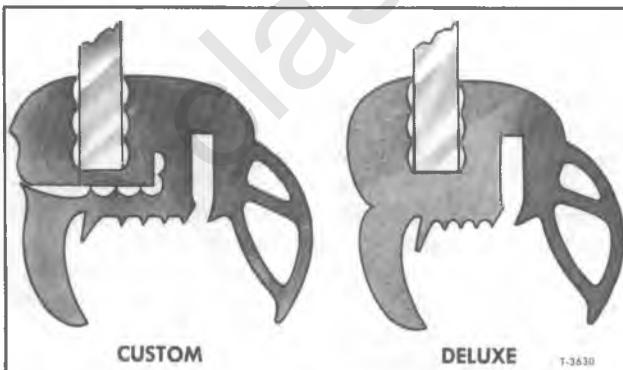

Figure 1—Cross Section of Windshield Weatherstrip (Conventional Cab Model)
NOTE: The windshield glass rubber weatherstrip is one-piece. The glass is held in a channel within the weatherstrip (fig. 1).
2. Do not try to remove reveal moulding while windshield is in body opening. Remove from custom weatherstrip retention groove (fig. 1) after windshield removal from body opening.